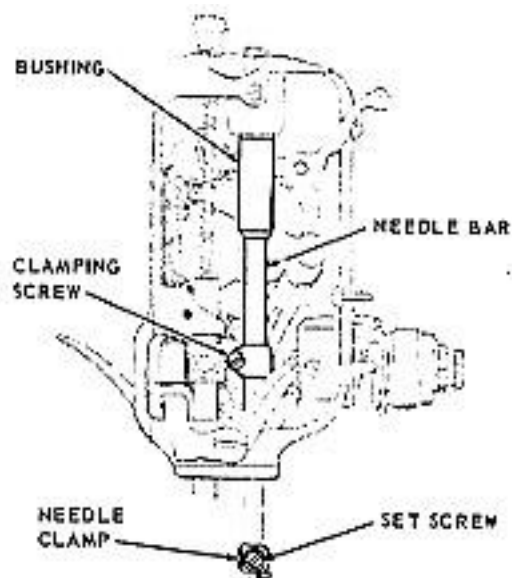

Fig. 27. Removing Needle Bar
2. Loosen set screw in needle clamp as shown in Fig. 27 and remove clamp.
3. Loosen clamping screw, Fig. 27, and lift needle bar up through bushing and out of machine
1. Insert needle bar down through bushing shown in Fig. 27.